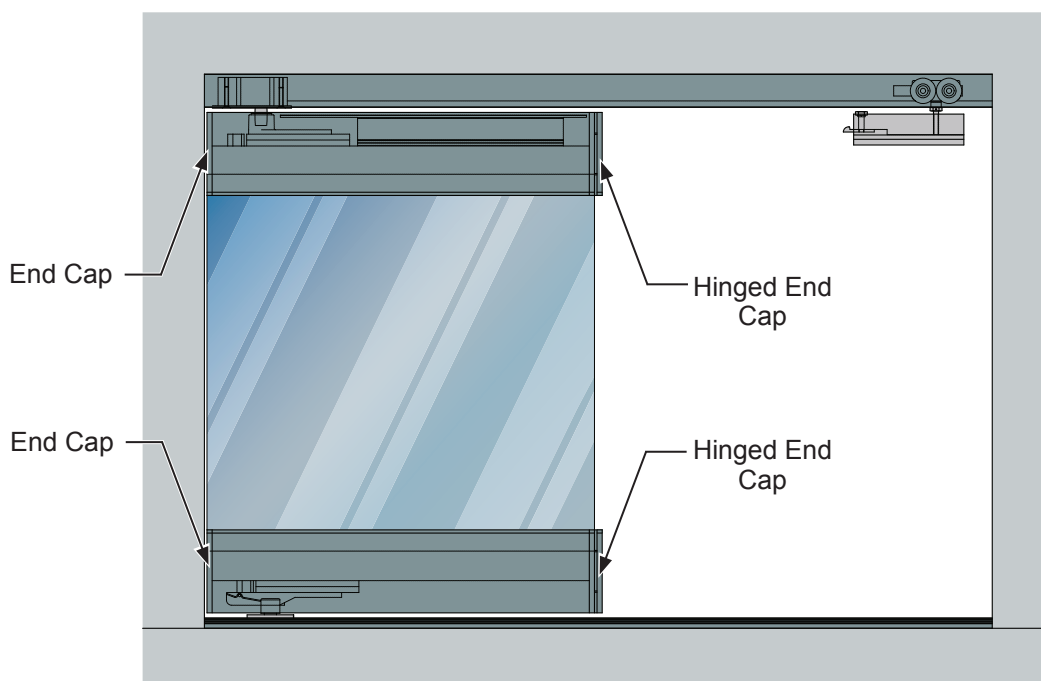

FIG. 11
4. When the door leaf is aligned correctly, re-install the end caps. **(Fig. 11)**